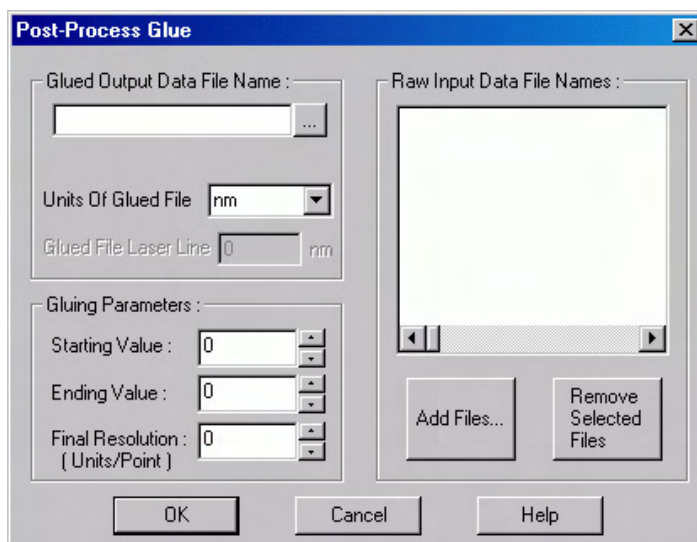

Figure 144. Post-Process Glue dialog box
2. From the Process menu select **Glue**. This will open the Post-Process Glue dialog box (Figure 144). *For more information, see the online Help for this dialog box.*